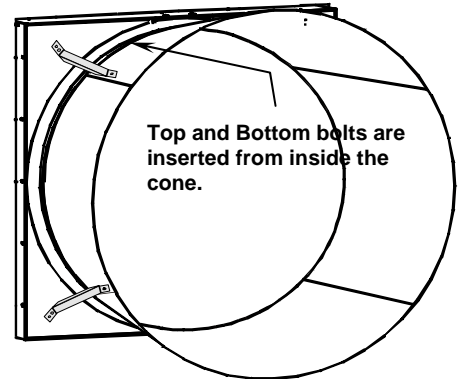

Figure 7: Mount Cone onto Fan
- 15. Align the cone over the remainder of the fan housing. Using four 1/4"x20 bolts and lock nuts, insert the bolts from the inside of the cone. See Figure 7.